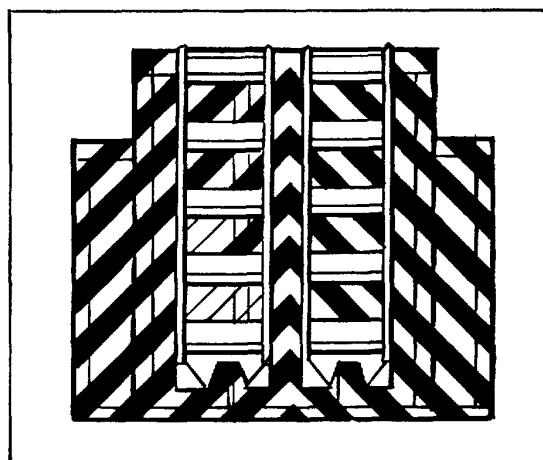

Figure 15. Safety marking calibration liftgate.
c. When authorized by the responsible commander, stripes of a contrasting color may be applied to certain vehicles, Figure 15, and equipment used in a nontactical area, that because of size, construction or function, presents a possible hazard. These stripes are applied to permit vehicles to be more readily seen by drivers of other vehicles. They are normally applied to the rear of such vehicles; they may, however, be also applied to the front or certain side surfaces if required.
(1) The stripes will be applied across the face of the bumper, or across the width of the vehicle on a flat surface above the bumper in a band not to exceed two feet in height. Other appropriate surfaces may be utilized when necessary.
(2) Width of the stripes will be 4 inches with a 4 inch space between stripes. They will be inclined at a 45° angle in opposite directions from the center line of the vehicle to form an inverted V pattern.
(3) Reflective red and white adhesive-backed stripes conforming to Federal Specification LS-300 will be utilized.
(4) Gloss black 17038 will be used for stripes on vehicles painted yellow or other light color.